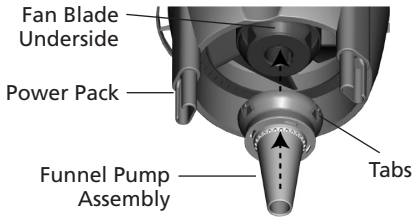

Figure 17
5. Attach the Funnel Pump Assembly to the Power Pack by engaging the three tabs on the underside of the fan blade. See Figure 17.